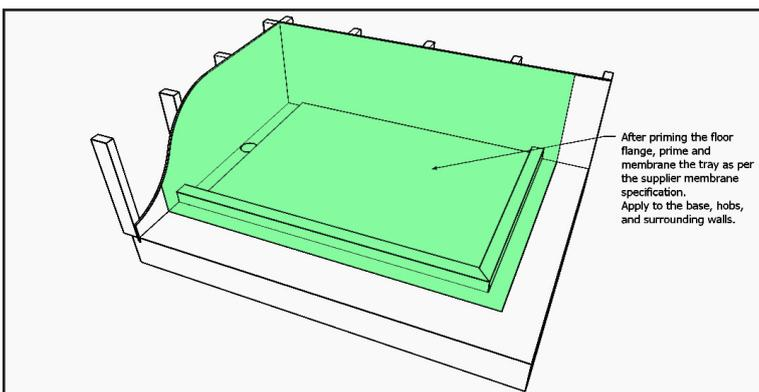

Fig. 7.1: Waterproofing of the main base.
- b)** Ensure waterproofing is applied to both wall and floor finishing heights as per local council body requirements. (See Fig. 7.1)
- d)** Ensure the waterproofing returns up the inside vertical face of the hob, across the top edge, down the floor line and on the outside of the tile over shower base. (Note your council may require the remaining bathroom floor to be waterproofed also). (See Fig. 7.1)